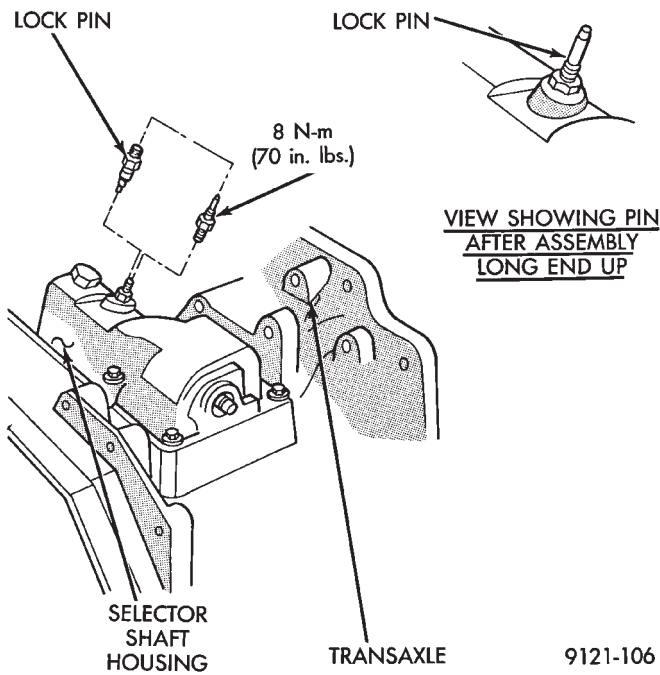
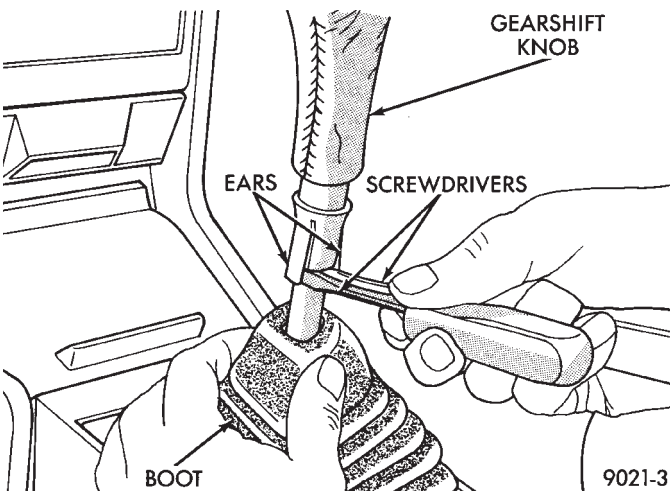

Fig. 4 Manual Transaxle Pinned in the Neutral Position to Adjust Gearshift
Fig. 5 Remove Gearshift Knob
(1) Working over the left front fender, remove the lock pin from the transaxle gearshift (selector shaft) housing (Fig. 4).
(2) Reverse the lock pin (so long end is down) and insert lock pin into same threaded hole. A hole in the selector shaft will align with the lock pin, allowing the lock pin to be screwed into the housing. This operation locks the selector shaft in the 3-4 neutral position.
(3) Remove or install gearshift knob (Fig. 5 or 6).
(6) Remove lock pin from gearshift housing and reinstall lock pin (so long end is up) in gear shift housing (Fig. 4). Tighten lock pin to 8 N•m (70 in. lbs.).
(7) Check for shift into first and reverse. Check for blockout into reverse.
(8) Gearshift mechanism and cables are now functioning properly.